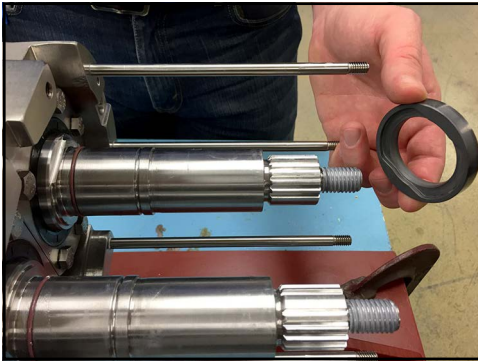

Figure 88 - Install seal seats
3. (Double seal only) Line up the flats on the inside seal seat with the flats on the shaft as shown in Figure 88, and slide the seal seats over the O-ring, until they are seated against the base of the shaft.